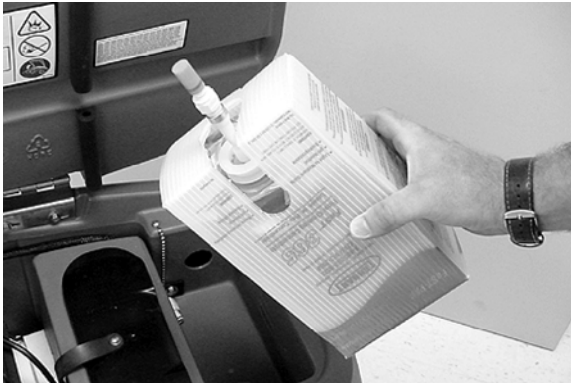

FIG. 9
- Remove the perforated knock-out from the FaST-PAK carton. Do not remove the bag from the carton. Pull the hose connector through the knock-out and remove the orange cap (Figure 9).